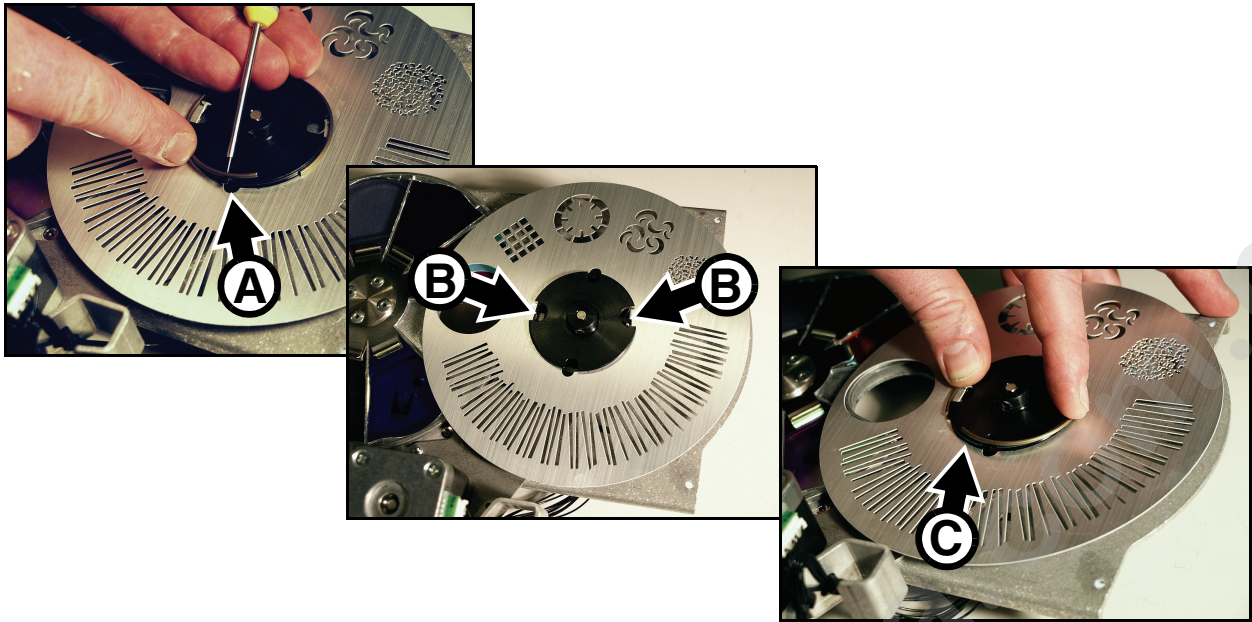

Figure 27: FX wheel removal and mounting
7. See Figure 27. Use a small flat-headed screwdriver to lever the retaining circlip **A** away from the FX wheel hub to release the wheel. Avoid bending the FX wheel during removal and storage.